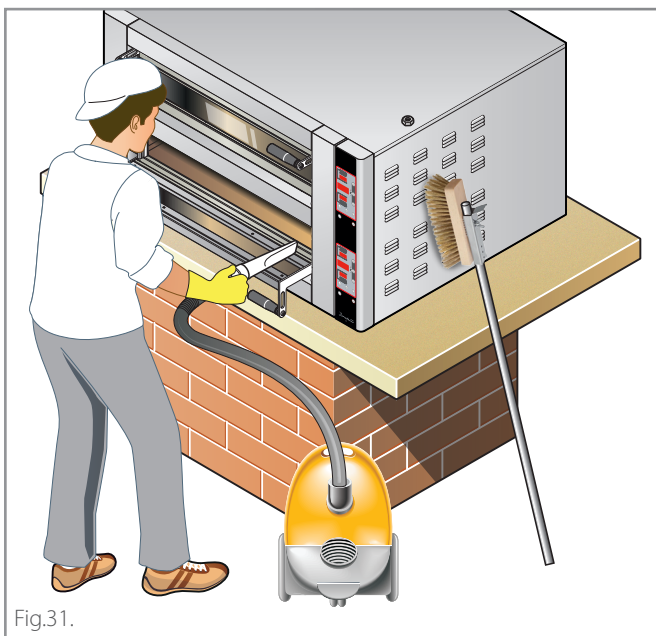

Fig.31.
- (A)** Set the **temperature in the chamber to 400 °C - 752 °F**;
- (B)** acting on the **MIN** and **MAX** keys, set both the **top** and **bottom power to MAX**;
- (C)** switch the cooking chamber lights off;
- (D)** when the temperature is reached, switch the oven off with the **ON/OFF** key and let it cool down with the door closed;
- (E)** in a cold oven, clean the chamber from the crystallized food residues using a natural fibre brush and then vacuum with an ash extraction bin ► **Fig.31.**
- (B)** set the **top** and **bottom power to 100%** see manual settings;
- (C)** switch the lights in the cooking chamber off;
- (E)** with a cold oven, clean the chamber from the crystallized food residues using a natural fibre brush and then vacuum with an ash extraction bin ► **Fig.31.**